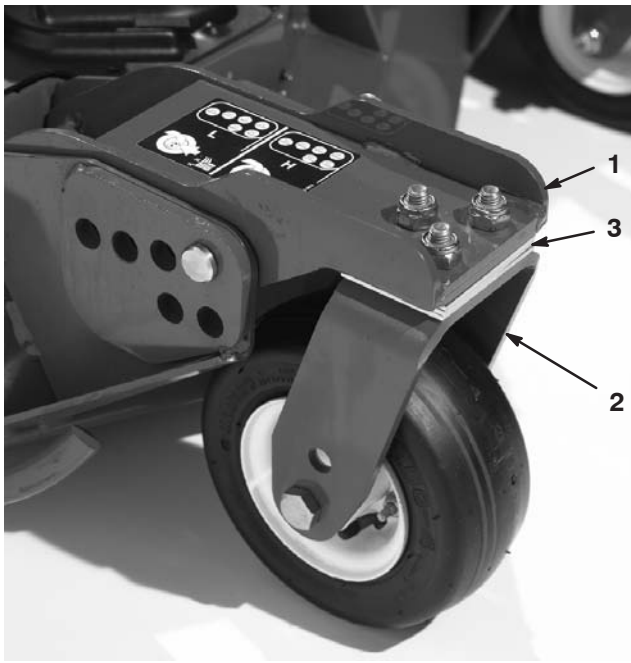

Figure 23
Rotate blade of each spindle until the ends face forward and backward. Measure from the floor to the front tip of the cutting edge. Adjust 1/8 in. shims on front castor arm(s) to match height of cut to decal (Fig. 23). For the outside blade spindle only, refer to Adjusting the Cutting Unit Pitch.
3. If the inside edge of the side cutting unit is too high relative to the outside edge of the front cutting unit, remove one 1/8 in. shim from the bottom of the front inside castor arm on the side cutting unit. (Fig. 23)